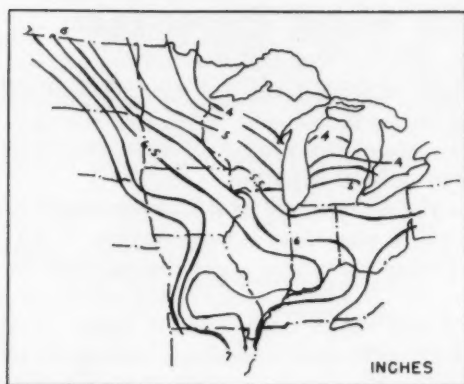

Fig. 5 Mean evaporation from lakes during the month of July (after Meyer)
As variations in climate from place to place affect evapotranspiration, it becomes necessary to adjust the Coshocton data for application elsewhere. Climatic factors of solar radiation, wind movement, and atmospheric moisture, are generally considered as exerting the most influence on evapotranspiration. These data are not generally available. Even if readily accessible, they are most difficult to correlate with evapotranspiration. Some device such as a pan for measuring water-surface evaporation, data for which are most generally available and which would evaluate the combined effect of climate on evapotranspiration, is being considered as a tool for adjusting the Coshocton data for application elsewhere. Water-surface evaporation has been calculated and maps of mean monthly evaporation prepared by Adolph Meyer (4). If proven practical, it is a ready tool for use almost anywhere within reason. An evaporation map for July of the North Central states appears on Fig. 5.